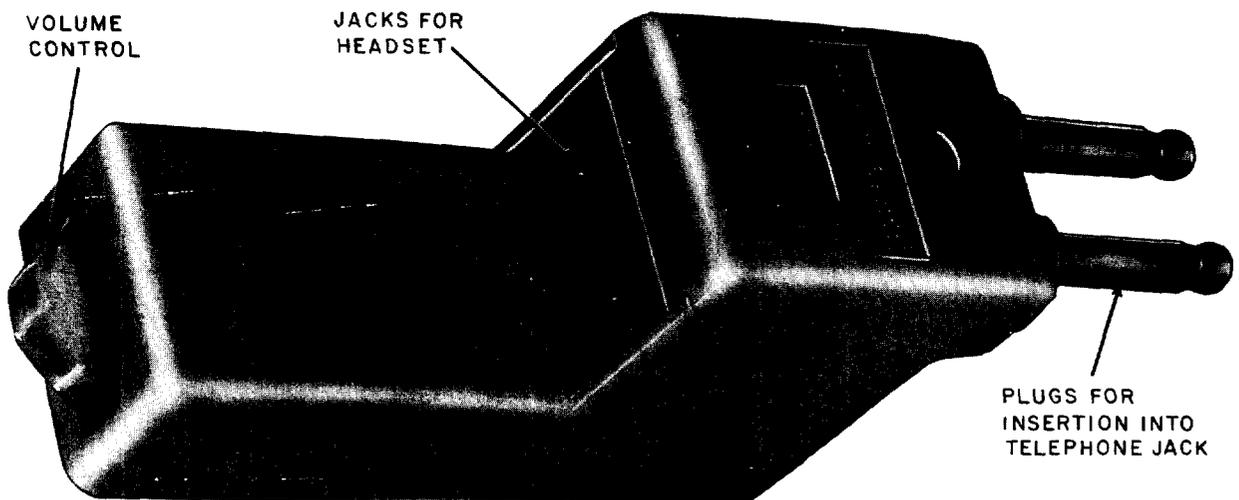

Fig. 1—292-Type Amplifier
1.01 The 292A (Manufacture Discontinued) and 292B amplifiers (Fig. 1) are intended for use in conjunction with a head telephone set for operators with impaired hearing. The amplifiers are to be used only where a real need exists, such as in cases where their use would permit the continued effective employment of operators whose hearing losses interfere with their job performances.
- (d) to revise Figs. 1 and 3
1.10 When in use, the plugs of the amplifier are inserted into the jacks of the telephone circuit and the head telephone set is plugged into the jacks of the amplifier (Fig. 1).